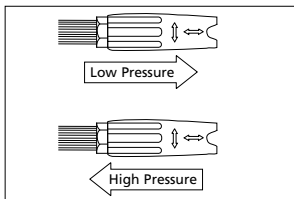

Figure 8 - Adjusting nozzle for pressure
3. Slide nozzle to the low pressure position as shown in Figure 8 and apply
3. To draw soap/detergent, release the trigger and slide the nozzle into the low pressure position (See Figure 8). Detergent suction will function ONLY with the nozzle in low pressure position. This also allows detergent appli-